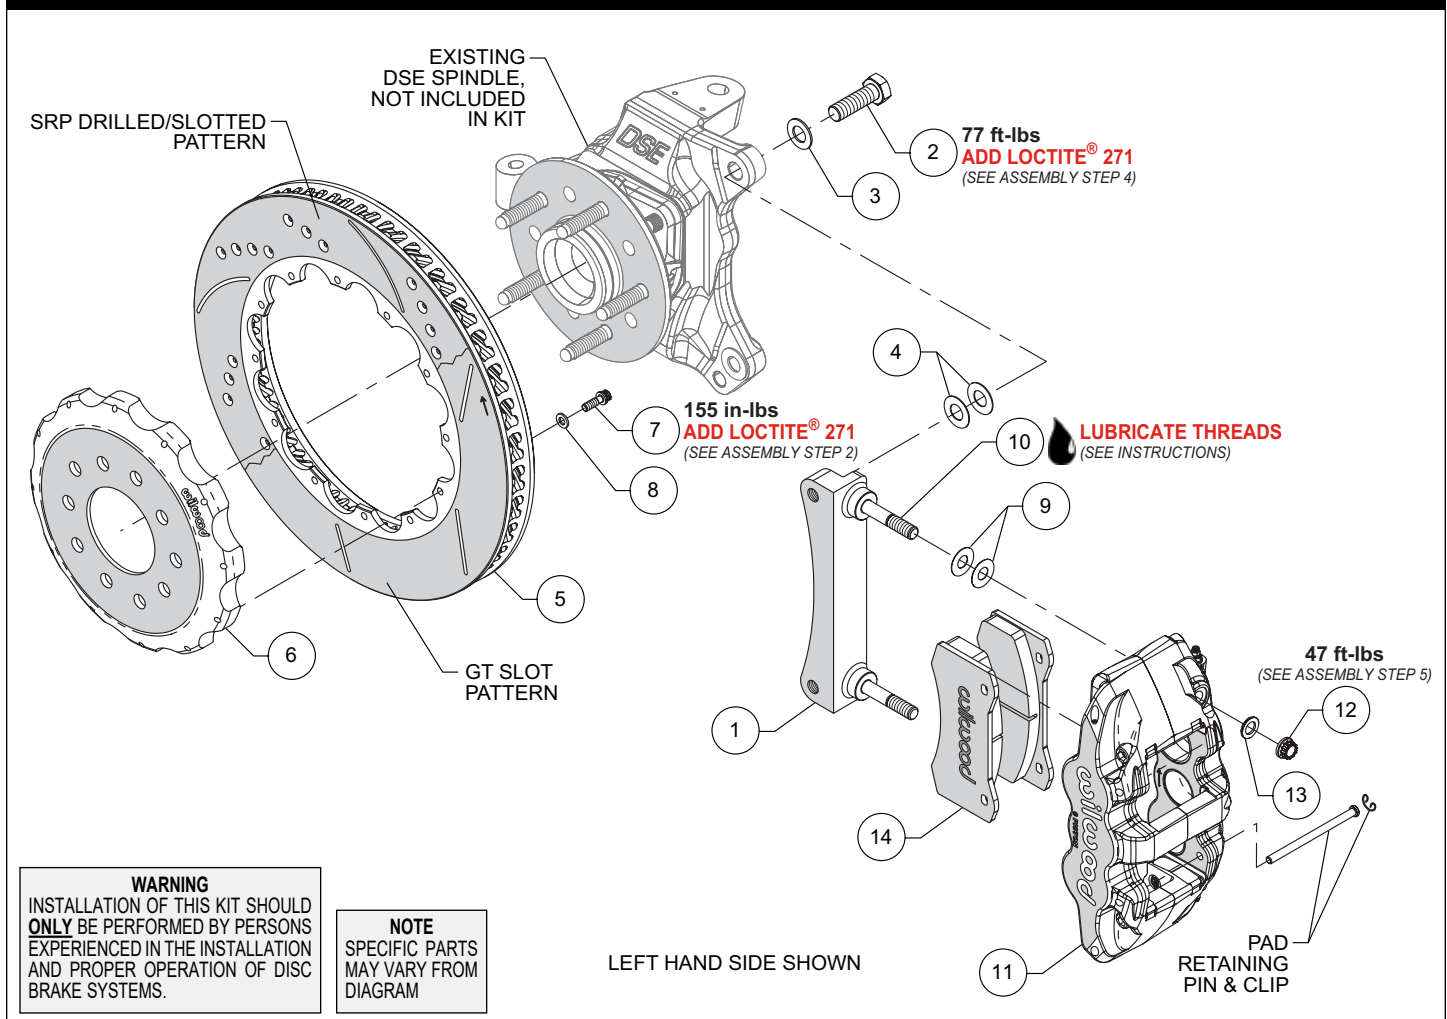
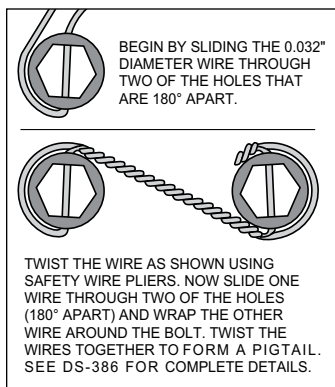

Figure 1. Typical Installation Configuration
Figure 3.
NOTE: Numbers in parenthesis refer to the parts list and Figure 1 on the preceding pages.
STEP 1 The caliper mount bracket (1) should initially be installed with clean, dry threads on the mounting bolts. Orient the bracket as shown in Figure 1 and Photo 1, and install using bolts (2) and washers (3). Initially place two .029 thick shims (4) on each
bolt between the bracket and upright, Figure 1 and Photo 2. Temporarily tighten the mounting bolts. **NOTE:** The bracket must fit squarely against the mount bosses on the upright. Inspect for interference from casting irregularities, machining ridges, burrs, etc. Later, after the caliper alignment has been checked, the mount bolts will be secured using red *Loctite*® 271.
STEP 2 Orient the rotor (5) and the hat (6) as shown in Figure 1 and Photo 3. Attach the hat to the rotor using bolts (7) and washers (8). Using an alternating sequence, apply red *Loctite*® 271 to the threads, and torque to value shown in Figure 1. For an added measure of security, the bolts may be safety wired using standard 0.032 inch diameter stainless steel safety wire as shown in Figure 3. Please refer to Wilwood's data sheet DS-386 (available at www.wilwood.com/Pdf/DataSheets/ds386.pdf) for complete safety wire installation instructions.
STEP 4 **NOTE:** This kit contains distinct right and left hand calipers that must be mounted in a specific direction, as described below. Lubricate the caliper mounting studs (10) with lightweight oil. Initially place two .016" thick shims (9) on each stud as shown in Figure 1 and Photo 5. Mount the caliper (11) onto the bracket (1) using lock nuts (12) and washers (13), Figure 1. Ensure that the caliper is mounted so that the largest pistons are at the rotor exit end of the caliper, in relation to the direction of rotor rotation. Temporarily tighten the lock nuts and view the rotor through the top
opening of the caliper. The rotor should be centered in the caliper, Photo 6. If not, adjust by adding or subtracting shims (4) between the bracket and the upright. Always use the same amount of shims on each of the two mounting bolts (2). Once the caliper alignment is correct, remove the bracket mounting bolts (2) one at a time, apply red *Loctite*® 271 to the threads, and torque to value shown in Figure 1.
STEP 5 Remove the caliper (11), then remove the two pad retaining pins from the caliper by carefully popping out the pin retaining clips and sliding out the pins. Insert the brake pads (14) into the caliper from the bottom with the friction material facing the rotor, Figure 1 and Photo 7. Secure the brake pads in place with the pad retaining pins and clips, Photo 8. Reinstall the caliper onto the caliper mounting bracket and temporarily tighten the lock nuts. Check that the top of the brake pad is flush with the outside diameter of the rotor, Photo 9. If not, adjust by adding or subtracting shims (9) between the caliper and the bracket. After the caliper pad height is set, torque the caliper lock nuts (12) to value shown in Figure 1.